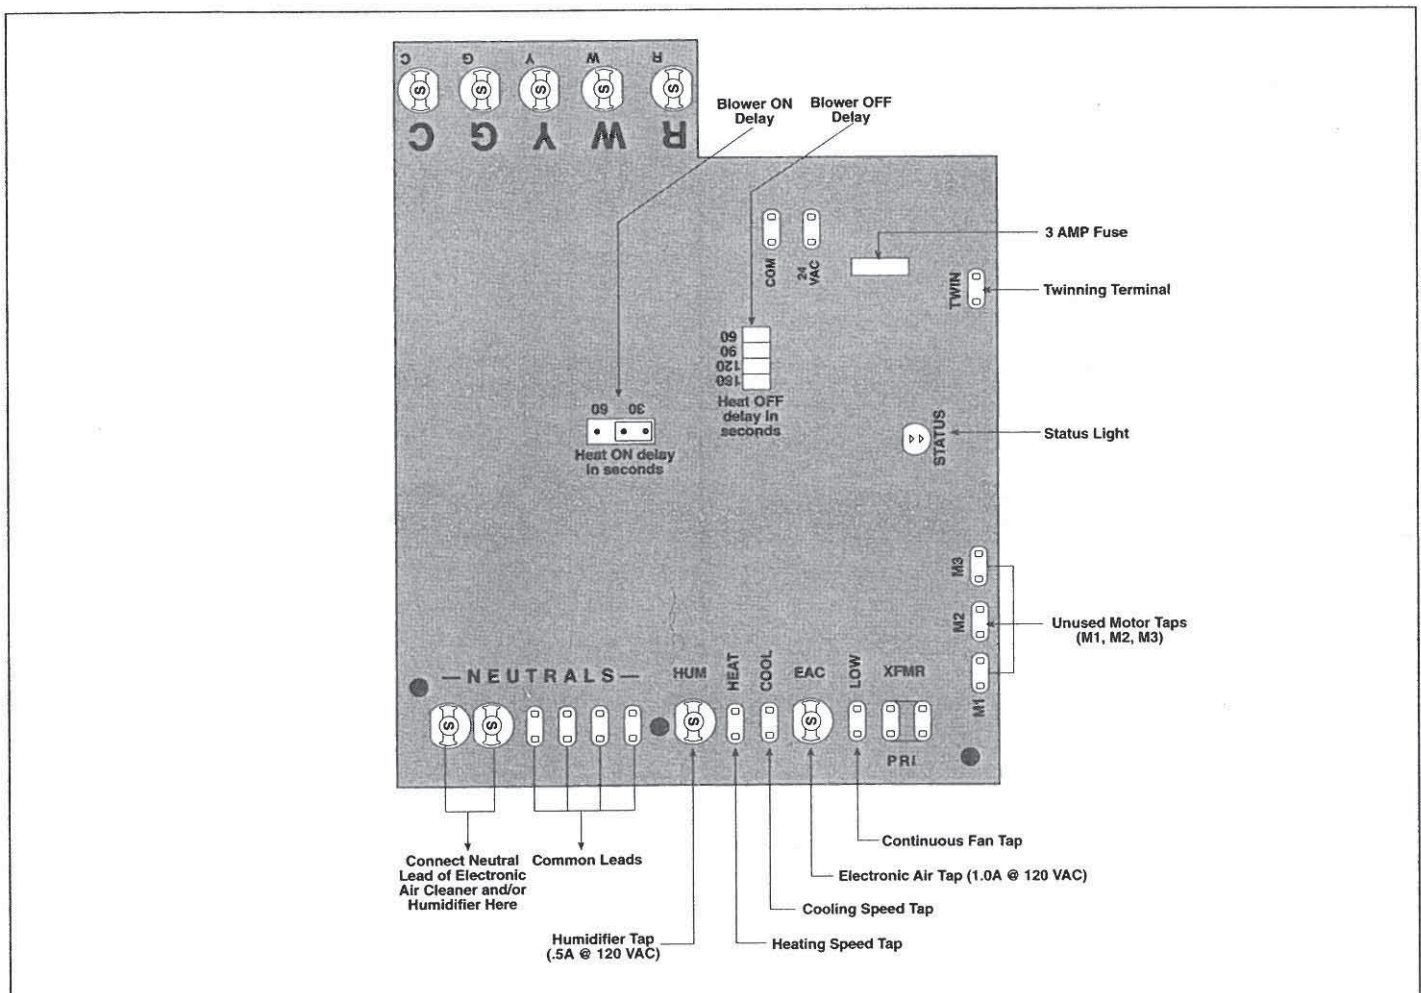

Figure 16. Blower Speed Tap Location
The blower control is designed to start the circulating air blower 30 seconds after the gas valve is opened. The blower control is factory wired to turn the blower motor off 120 seconds after the gas valve is closed. This timing can be changed by lifting the small plastic leg jumper and moving to a different timing. See Figure 16 for jumper configuration on integrated control board.
12. The furnace control keeps the main circulating blower circuit energized per the "blower off" position (factory set at 120 seconds, field adjustable to 60, 90, or 180 seconds). (See Figure 16)